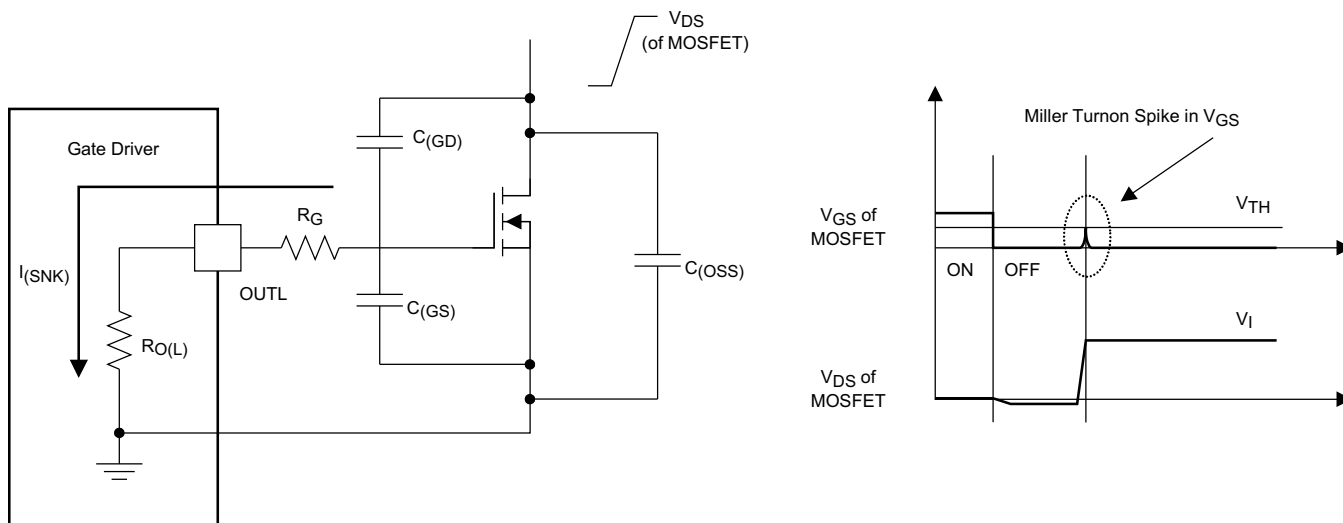

Figure 24. Very-Low Pulldown Impedance in UCC27511A, 4-A and 8-A Asymmetrical Drive (Output Stage Mitigates Miller Turnon Effect)
An example of a situation where the Miller turnon effect is a concern is synchronous rectification (SR). In an SR application, the dV/dt occurs on the MOSFET drain when the MOSFET is already held in off state by the gate driver. The current discharging the C(GD) Miller capacitance during this dV/dt is shunted by the pulldown stage of the driver. If the pulldown impedance is not low enough then a voltage spike can result in the VGS of the MOSFET, which can result in spurious turnon. This phenomenon is shown in Figure 24. The UCC27511A device offers a best-in-class, 0.375-Ω (typ) pulldown impedance boosting immunity against Miller turnon.